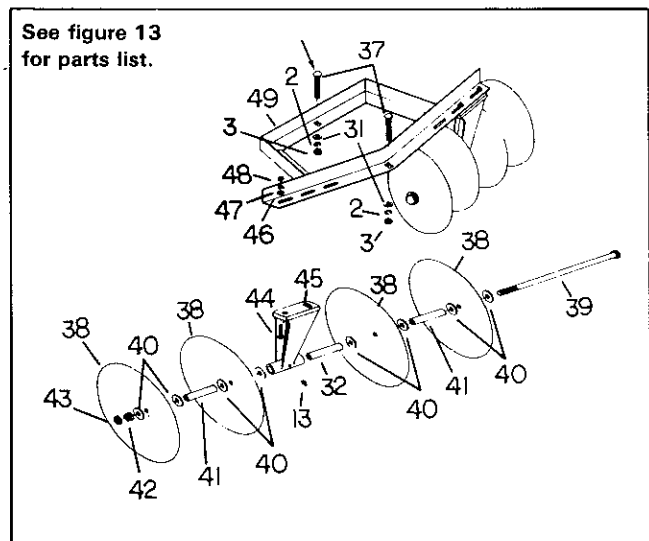

Figure 2B. Disc Harrow
1. Assemble the disc gangs as shown in figure 2B. Be sure two unplated steel tubular bearings (32) are inside the two bearing hangers (45) before assembling.